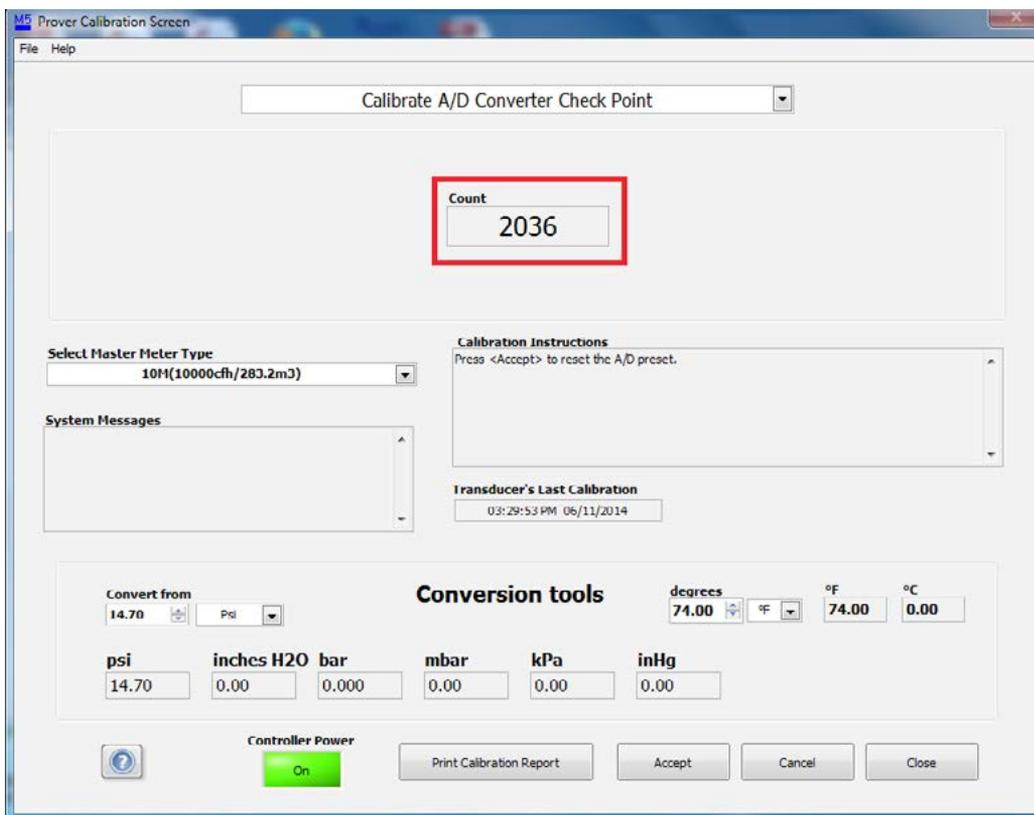

Figure 61: Digitized Counts Box
13. The window will update. Wait several seconds. Observe on the right-hand side of the screen the box entitled "Digitized Counts". Refer to **Figure 61**. This number will fluctuate a couple of digits and should be greater than 2000 but less than 2070.